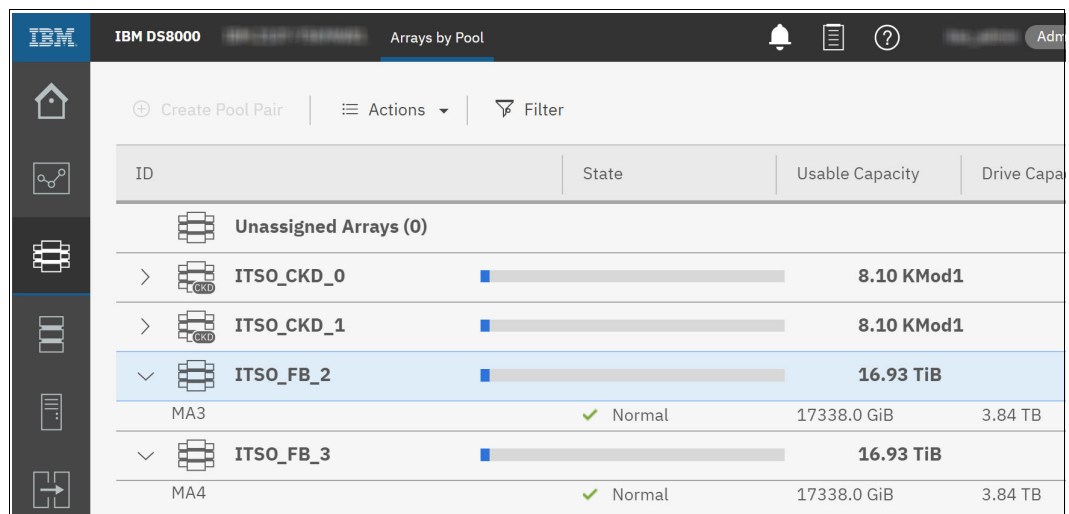

Figure 9-39 Pool pair that is created with assigned arrays
5. When pool pair parameters are correctly specified, click **Create** to proceed. Figure 9-39 shows a pool pair that is created and assigned arrays.